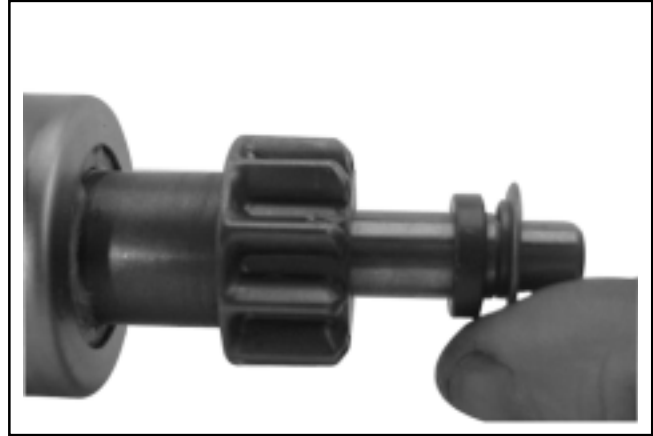

Figure 8-55. Installing Thrust Washer.
3. Install the offset thrust (stop) washer so the smaller "offset" of washer faces the retainer/collar. See Figure 8-55.